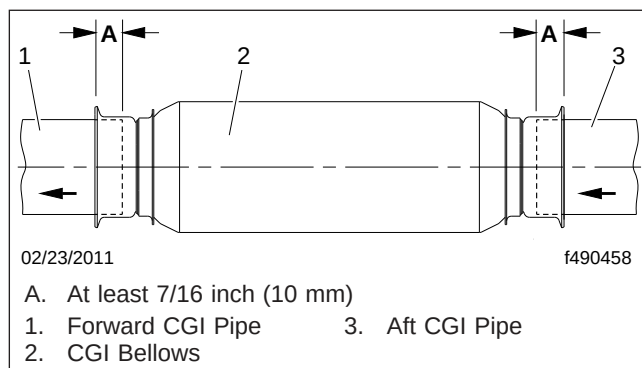

Fig. 12, CGI Bellows Installation
12. Slide the new bellows onto the aft CGI pipe as far as it will go. See **Fig. 12**, Ref. A. Measurement A should be at least 7/16 inch (10 mm) past the face of the flange.
16. Using the yellow marks, center the bellows between the exhaust pipes. Verify that the pipe is inserted at least 7/16 inch (10 mm) past the face of the flange. See Fig. 12, Ref. A.